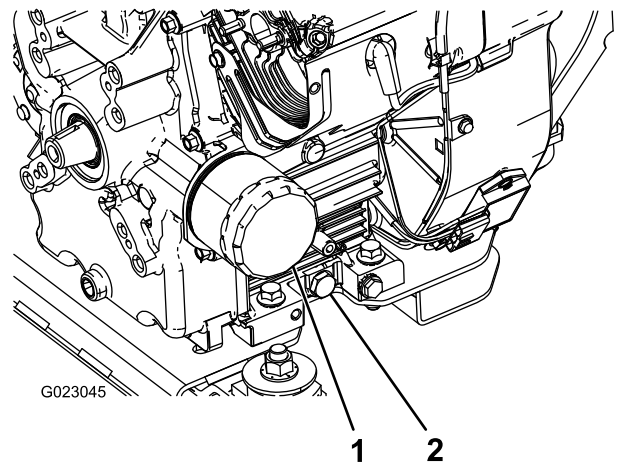

Figure 41
5. Remove the drain plug (Figure 41).
8. Slowly pour approximately 80% of the specified amount of oil into the oil filler tube (Figure 41).